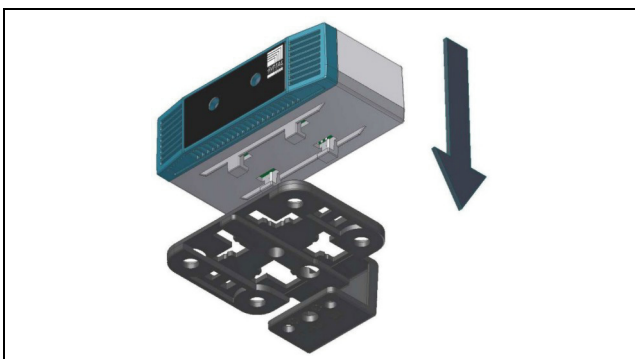
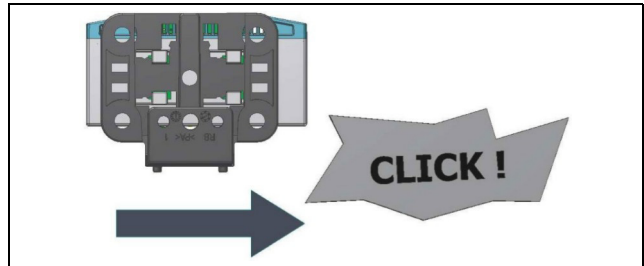

Fig. 2: Attaching the sensor to the bracket
Fig. 3: Latching the sensor into place on the bracket
- Then place the universal sensor on the bracket (fig. 2) and latch it in place (fig. 3).